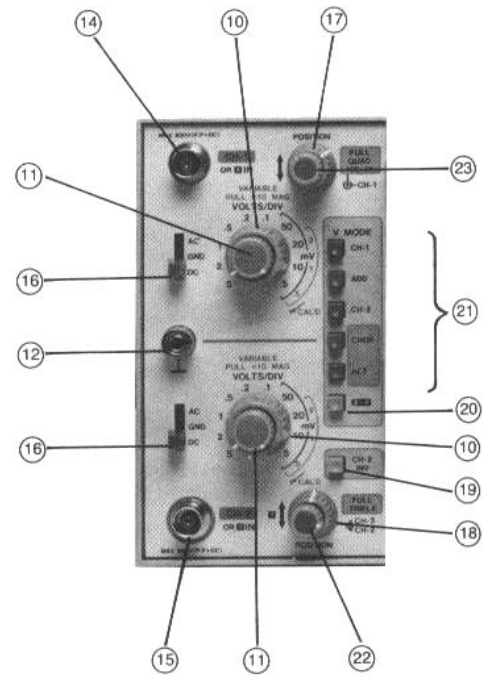

Figure 2-2
Refer to Figure 2-2 for references (10) to (12) and (14) to (23).